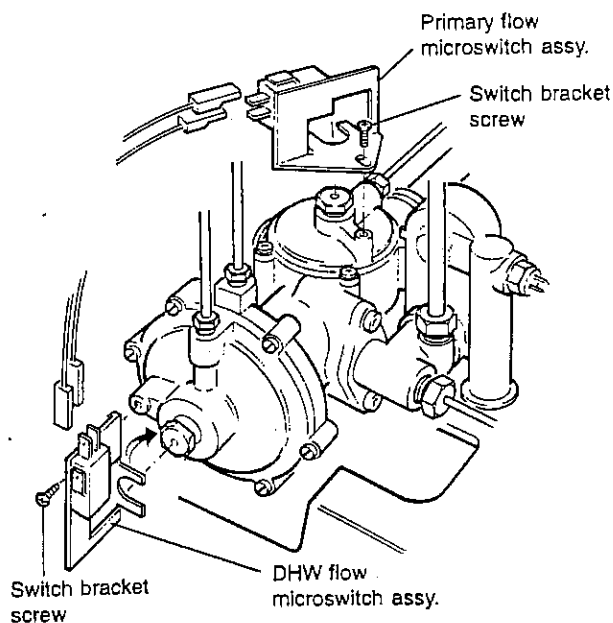

Fig. 28
8.20 DHW AND PRIMARY FLOW SWITCHES - Fig. 28
PRIMARY flow switch (back of diverter valve), red wires to terminals as shown in Fig. 28.
DHW flow switch (front of diverter valve), green wires to terminals as shown in Fig. 28.